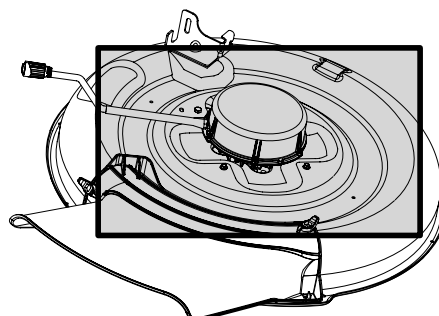

Figure 4-1
- Clean the top of the tractor deck. See Figure 4-1.